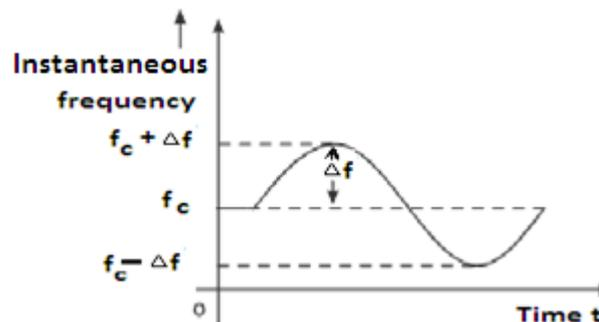

Fig.3.1 (a) Instantaneous frequency –time curve
- ❖ The instantaneous frequency as a function of time and the wave shape of FM wave is shown in Fig 3.1.
- ❖ As can be seen from the Fig 3.1, when the frequency deviation Δf is maximum (i.e.) when E_m is maximum, the frequency of FM wave is maximum.